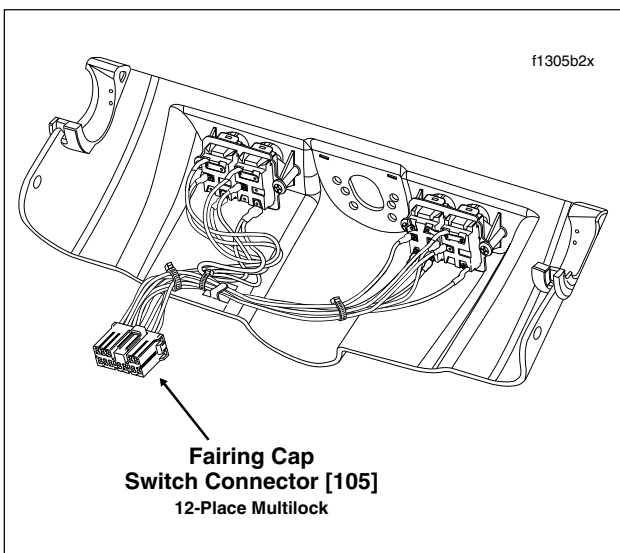

Figure 8-63. Fairing Cap Assembly (FLHT/C/U)
7. Remove the fairing cap from the motorcycle. See Figure 8-63.